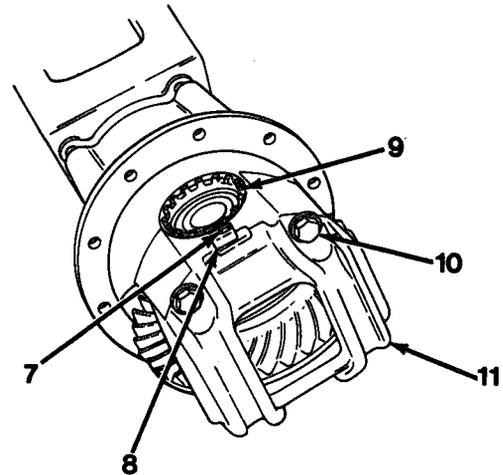
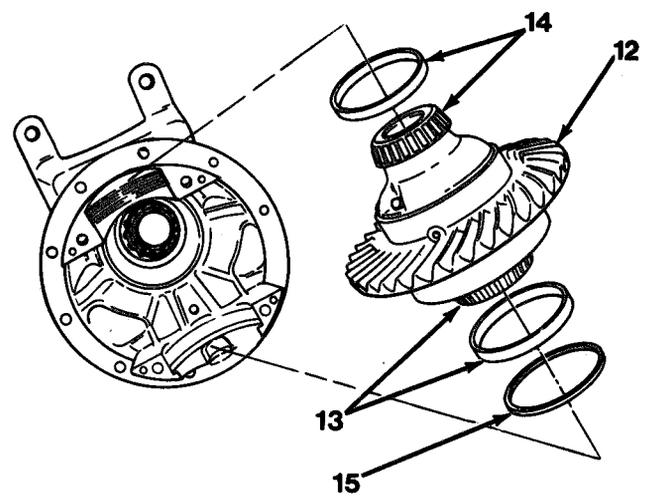

Figure 12-3
Figure 12-4
3. Using a 10 mm socket wrench, remove bolt (7) and adjusting nut lock (8, Figure 12-3).
4. Remove adjusting nut (9). Using a 19 mm socket wrench, remove bolts (10) and bearing cap (11).
5. Remove differential ring gear assembly (12), bearing cups (13) and (14) and shims (15, Figure 12-4).